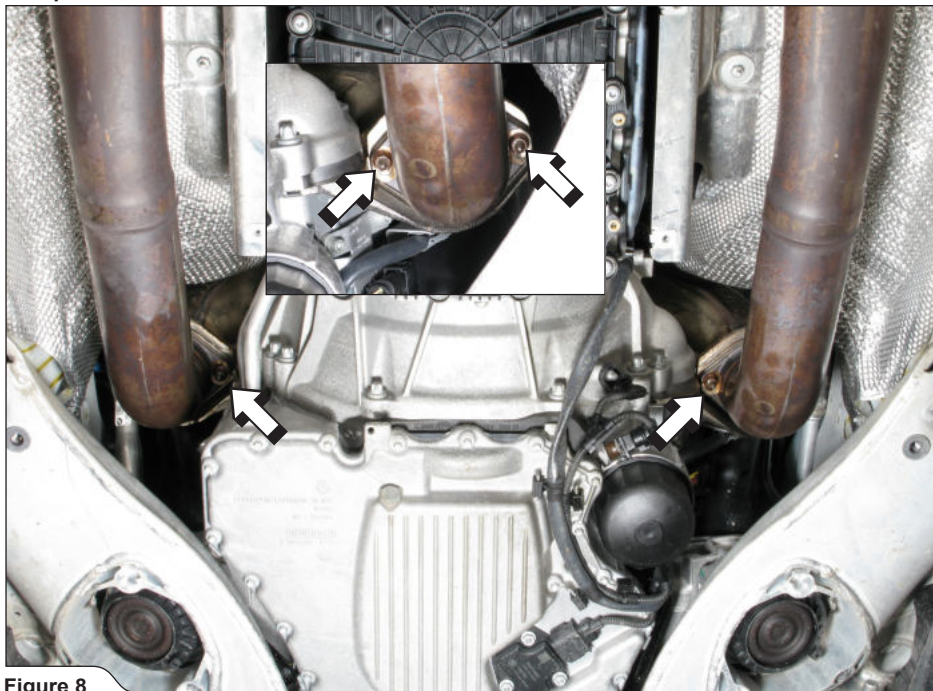

Figure 8
6. Support the stock exhaust system and unscrew the marked flanges' nuts (**Figure 8**).